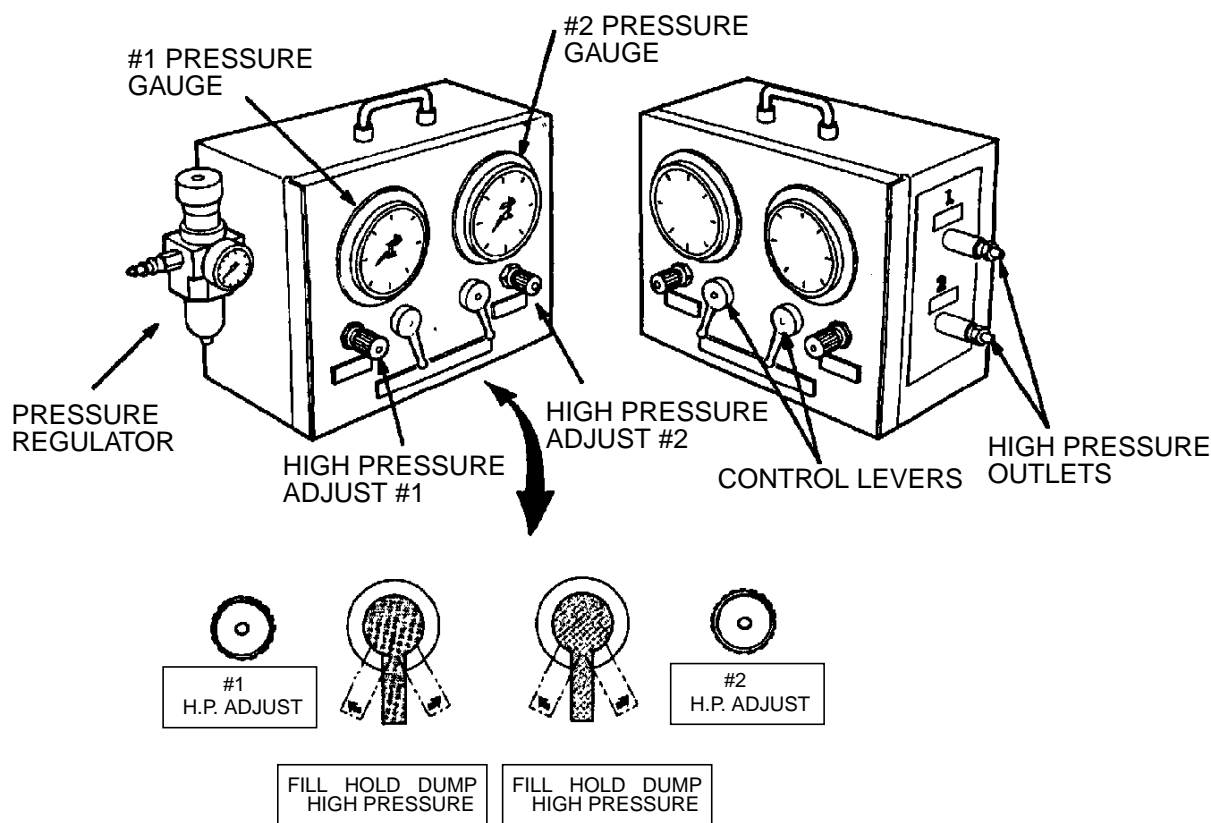

Figure 4 - Pressure Test Rig
5.6.2 Set-up the pressure test rig as follows (see Figure 4):